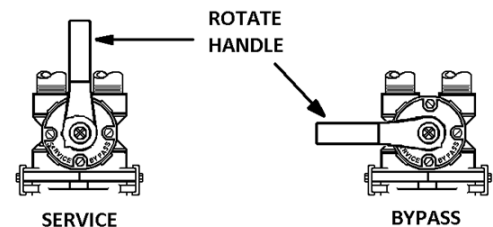

FIGURE 3: Bypass Valve
STEP 9: Be sure the bypass valve is in the "BYPASS" position (see figure 3, page 4).
STEP 13: Refer to Figure 3 (page 4) for appropriate bypass valve operation. Rotate bypass lever of stainless steel bypass $\frac{1}{4}$ of the way to "Service" allowing unit to fill slowly. You should hear water trickling into the mineral tank. Filling the mineral tank in this position will force any trapped air to the drain. **When all air has been purged from the system and only water is running to the drain, slowly open the bypass valve fully to the service position and allow the unit to backwash until the drain water is clear of any cloudiness due to media fines.**